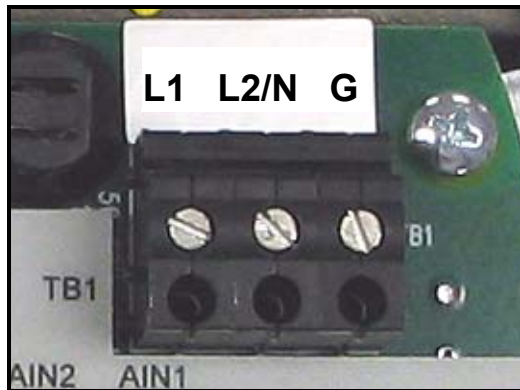
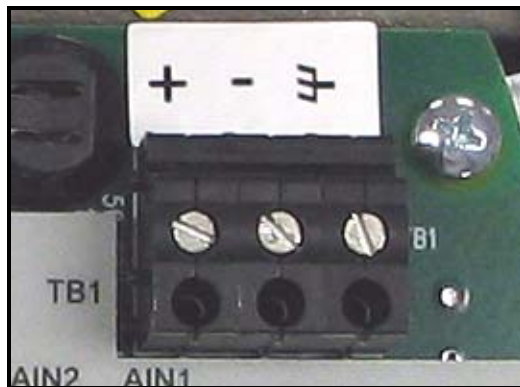

Figure 15: Wiring the AC Line Power
Figure 16: Wiring the DC Line Power
See Figure 15 on page 25 to locate terminal block TB1 and to connect the line power as outlined below:
2. Route the cable through one of three conduit inlet ports (see Figure 14 above) and connect the line power leads to terminal block TB1, using the pin number assignments shown in Figure 29 on page 36 and Figure 15 or Figure 16 on page 25.
3. Run the AC power connections to the Power Terminal Block shown in Figure 15 below. It is recommended to use 12–18 AWG (3.3 – 0.82 mm²) power wiring.
5. Route the cable through the chosen conduit hole and connect the line power leads to terminal block TB1, using the pin number assignments shown in Figure 30 on page 37 and Figure 15 or Figure 16 below.